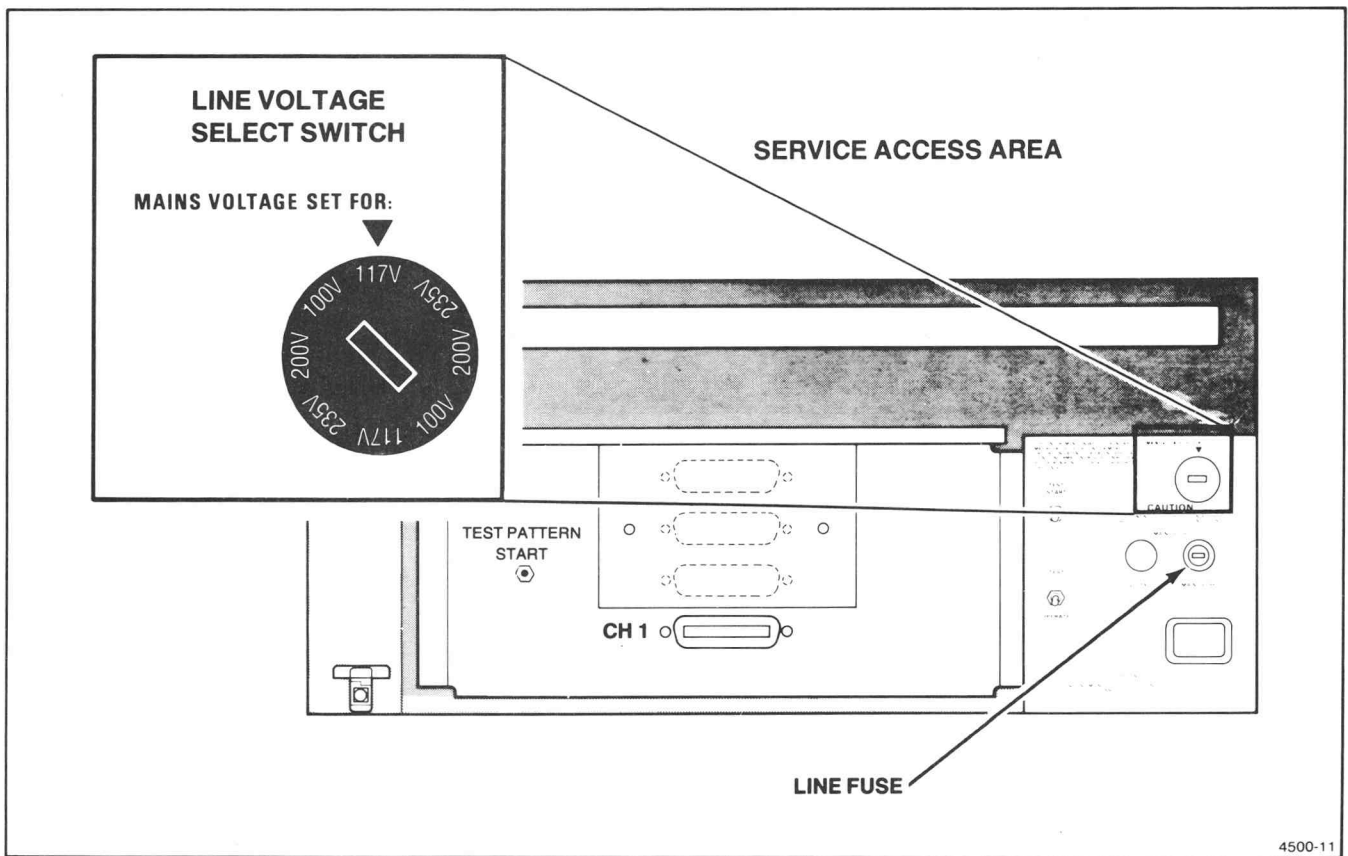

Figure 5-1. Voltage Selection Switch.
1. Open the service access area by pressing the upper-left corner of the service access door. Verify that the Line Voltage Selector switch is set to the appropriate line voltage for your area. See Figure 5-1.